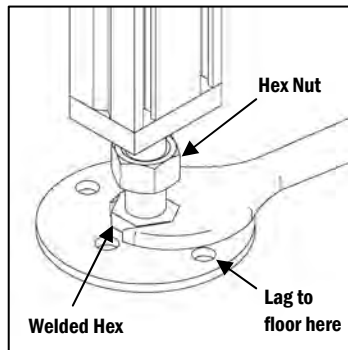

Figure 4
- b. Rotate the hex welded to the foot to the desired height (**Figure 4**).